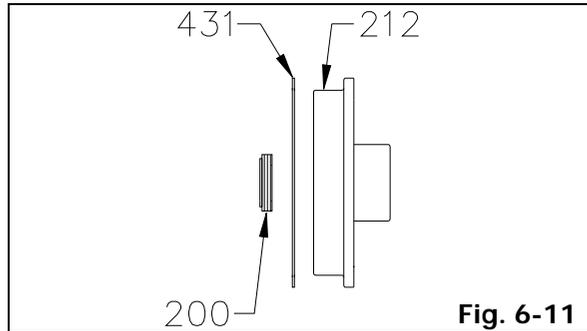

Fig. 6-11
- Remove stationary portion of mechanical seal (200) gently from stuffing box cover (212) (Fig 6-11).